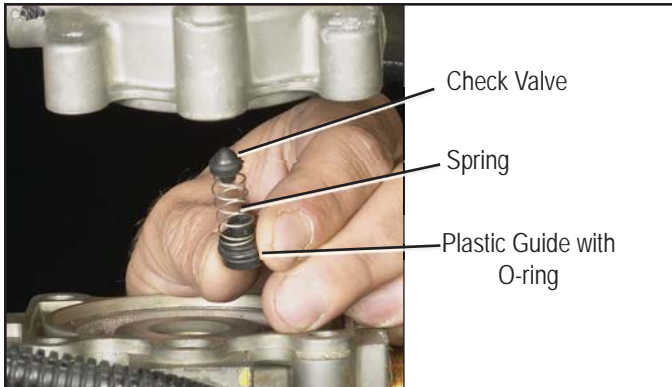

Figure 9 - INTERNAL CHECK VALVE
3. As shown in Figure 9, remove the plastic guide, spring and check valve from the valve bore and discard. Note: The check valve may stick to its seat in the upper body. Be sure that all of the components are removed before going to the next step.